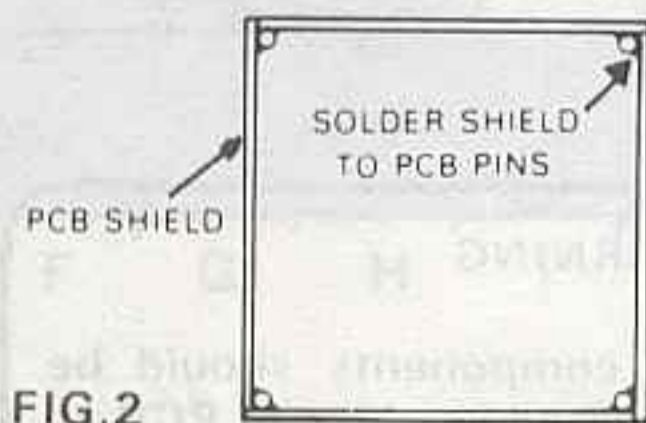

FIG. 2
2. Supplied in your kit is a small piece of thin PCB material. This should then be cut to suitable lengths and soldered to the above pins, forming a shield for the VTO (refer to Fig 2).